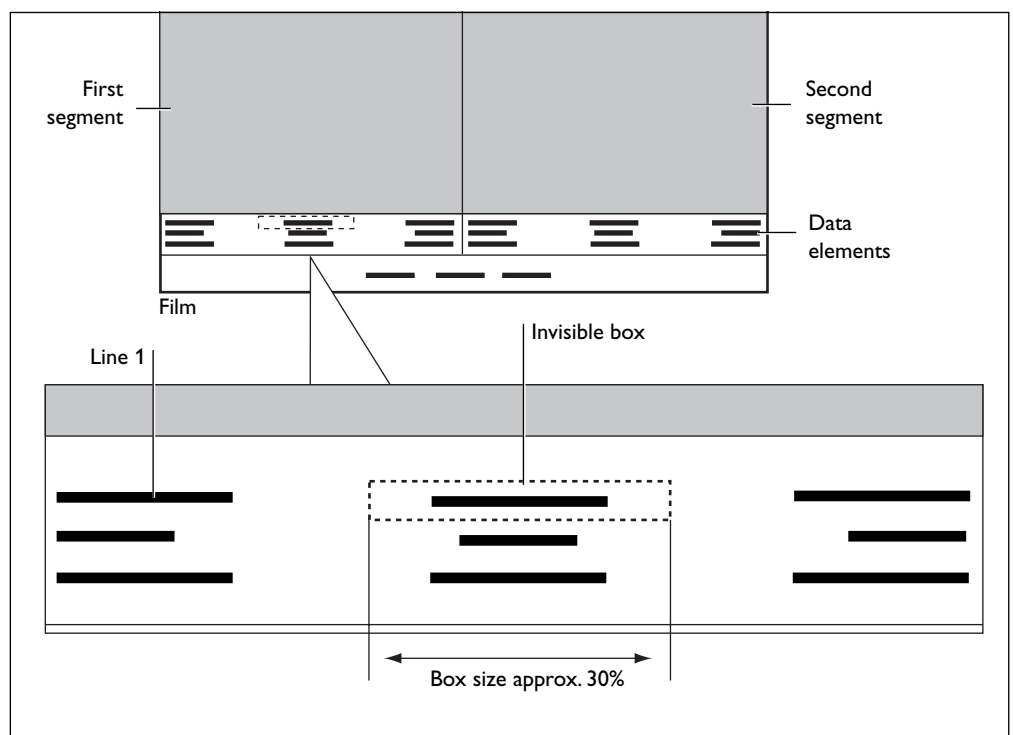

Fig. 8.26 Position and size of a box
- 50% = The box is positioned in the centre of the line (see Fig. 8.26).